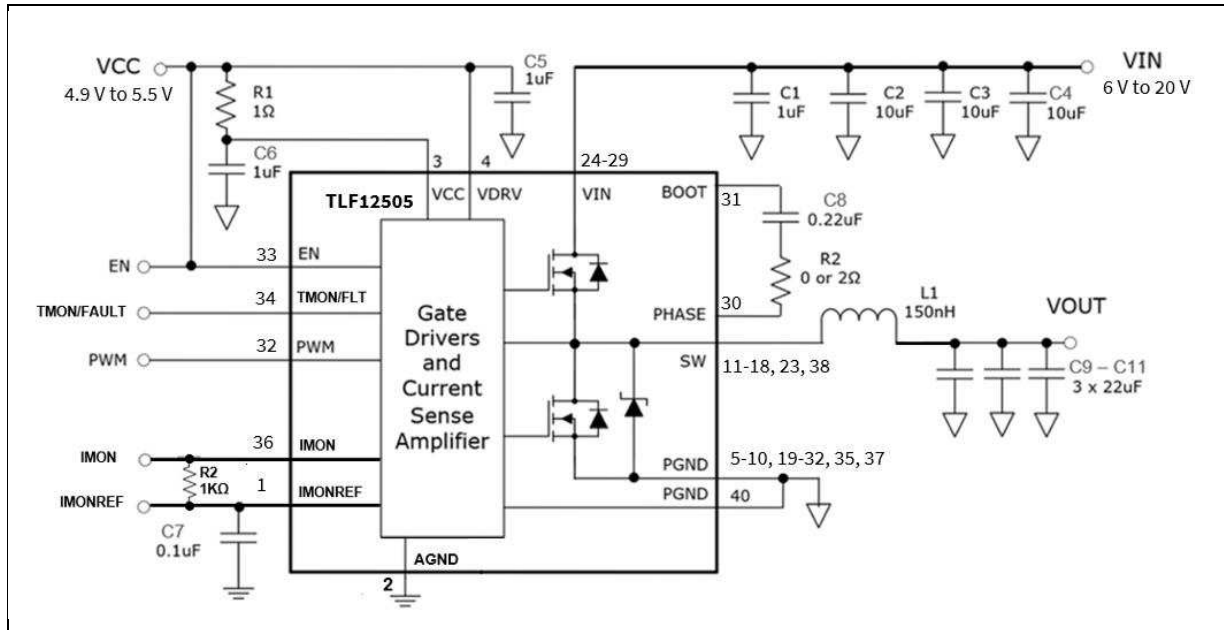

Figure 16 Typical Application Diagram for Single-Phase Voltage Regulator
Single Phase Circuit of Figure 16, $V_{IN} = 12\text{ V}$, $V_{OUT} = 0.8\text{ V}$, $f_{SW} = 500\text{ kHz}$, $L = 150\text{ nH}$, $V_{CC} = V_{DRV} = 5\text{ V}$, $T_{AMBIENT} = 25^\circ\text{C}$, no heat sink, no air flow, 8-layer PCB board of 3.7" (L) x 2.6" (W), no PWM controller loss, no inductor loss, unless specified otherwise.
Single Phase Circuit of Figure 16, $V_{IN} = 12\text{ V}$, $V_{OUT} = 0.8\text{ V}$, $f_{SW} = 500\text{ kHz}$, $L = 150\text{ nH}$, $V_{CC} = V_{DRV} = 5\text{ V}$, $T_{AMBIENT} = 25\text{ }^{\circ}\text{C}$, no heat sink, no air flow, 8-layer PCB board of 3.7" (L) x 2.6" (W), no PWM controller loss, no inductor loss, unless specified otherwise.